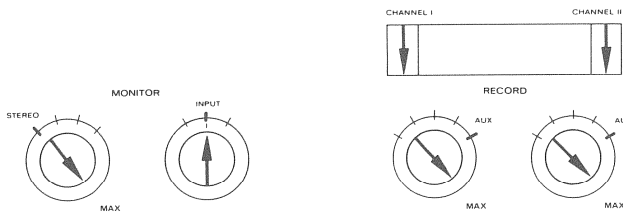

Fig. 6.5–65
- Set controls per fig. 6.5–65.